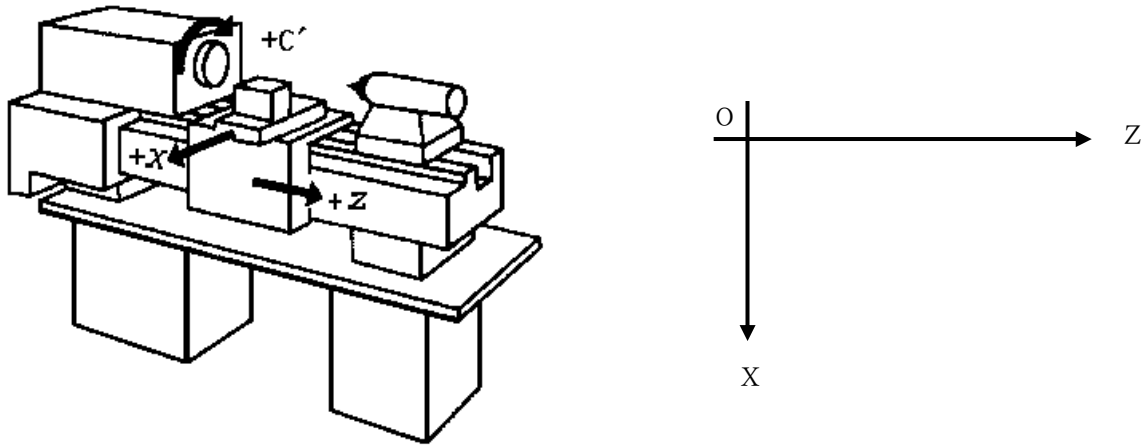

Fig. 1-1 X—Z plane rectangular coordinate system 1 (front tool post coordinate system)
This system has defined the controlled axis and its motion according to GB/T 19660—2005/ISO 841:2001 **Industrial Automation System and Integration-Numerical Control of Machines-Coordinate System and Motion Nomenclature**. The two coordinate axes are named with X and Z, which are perpendicular each other to form X—Z plane rectangular coordinate system as Fig. 1-1:
The coordinate system in the manual defines X, Z based on Fig. 1-1(front tool post coordinate system). Some commands of G codes must be converse when Fig.1-2(rear tool post coordinate system) defines X, Z:
- 1) When G02 programming based on Fig.1-1, Fig. 1-2 uses G03 programming; when G03 programming based on Fig.1-1, Fig.1-2 uses G02 programming.
- 2) When G41 programming based on Fig.1-1, Fig. 1-2 uses G42 programming; when G42 programming based on Fig.1-1, Fig.1-2 uses G41 programming.